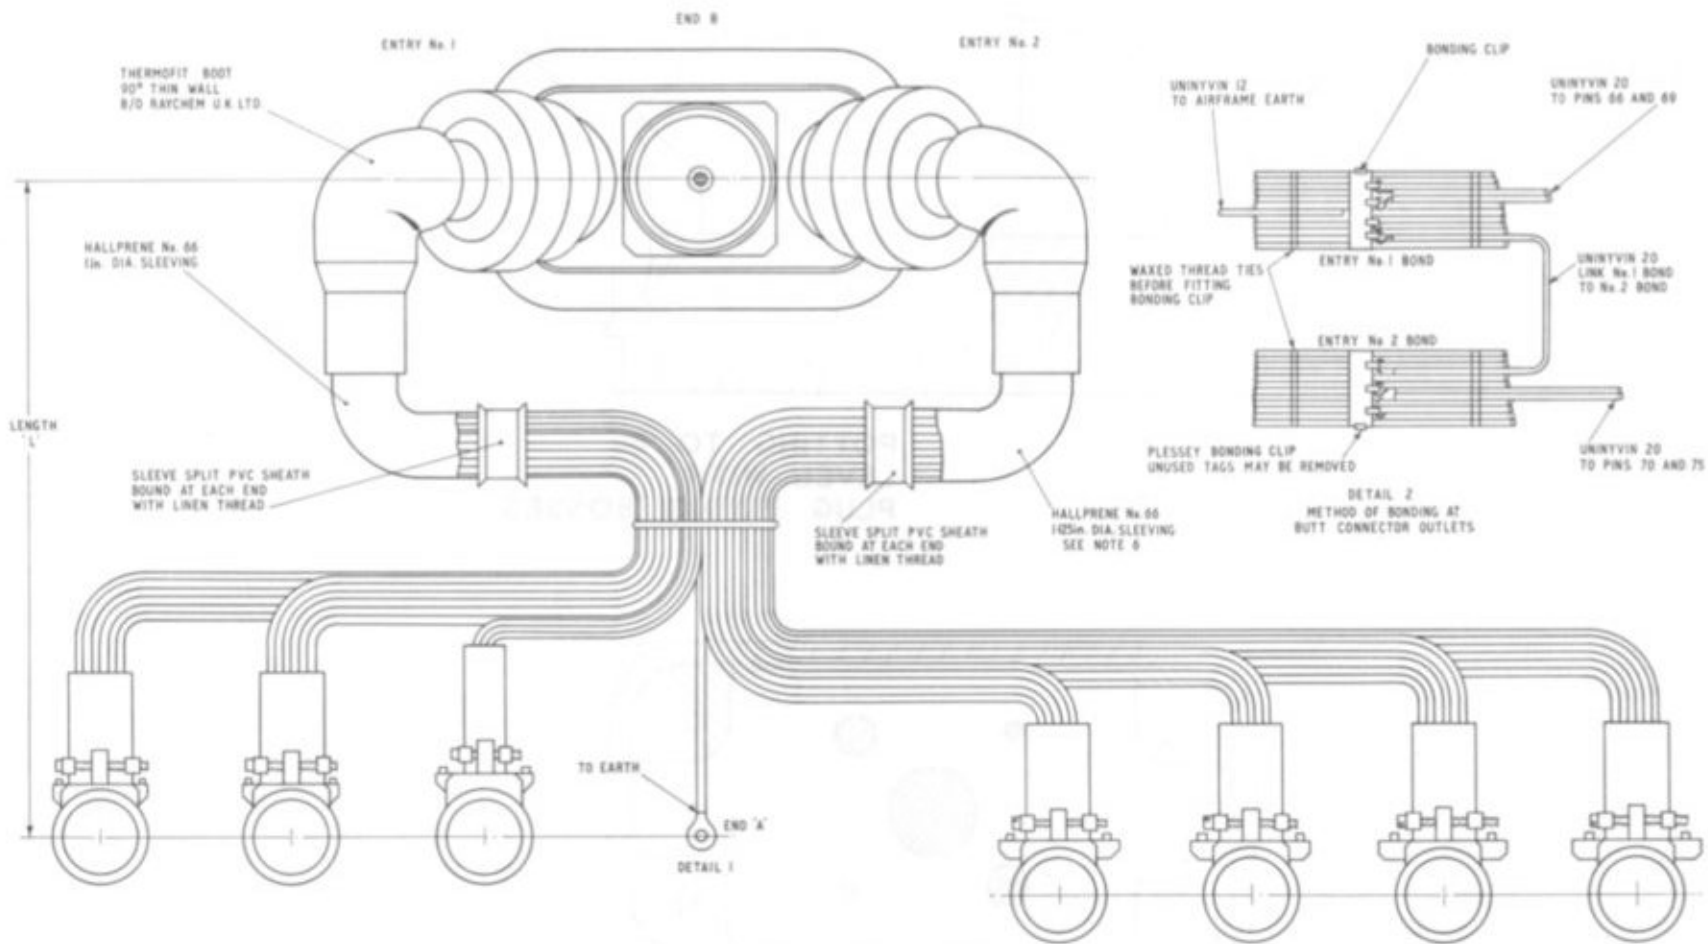

Fig.11 Assembly of cables - No.4 butt connector
- (1) Bonds are to be made with Plessey bonding clips, Part No.250780, and are to be made within the outlet necks of the plug as shown in fig.11.
- (2) Cables are to be bunched tightly each side of the bond by means of waxed thread prior to fitting the bonding clip.
- (3) Pins 66 and 69 are to be connected to the forward bond using uninyvin 20 cable.
- (4) The two bonds are to be interconnected within the shell using uninyvin 20 cable.
- (5) Using uninyvin 12 cable, connect No.1 bond via the appropriate outlet to the airframe earth.